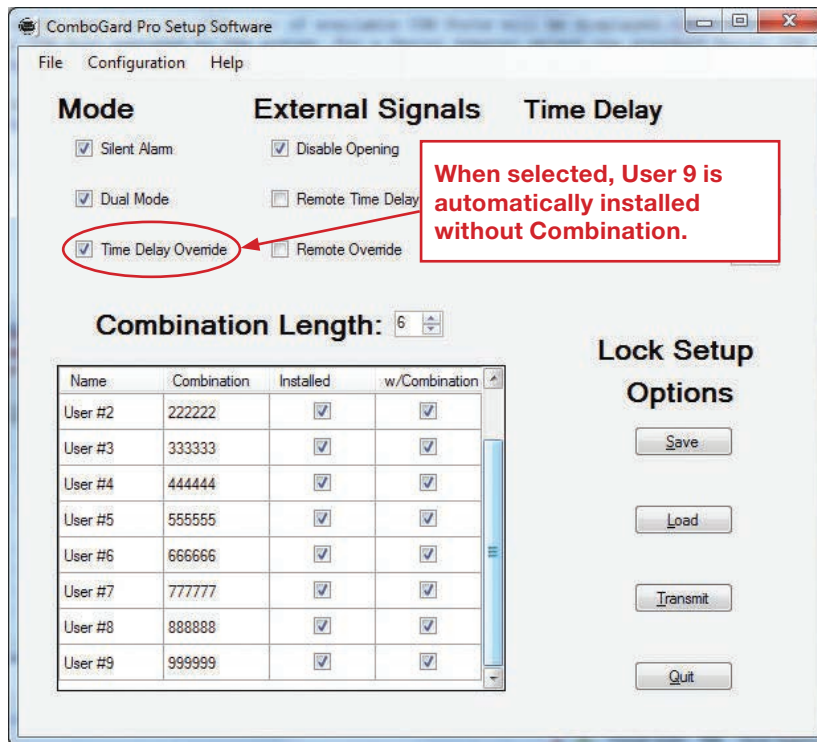

Figure 5
**Time Delay Override:** If selected, User 9 must be installed to use this option. The software will automatically install User 9 without combination (Figure 5). The Manager can choose to enable the **w/Combination** option or enroll User 9 through the keypad later. (Refer to Manager Instructions 732.018.)